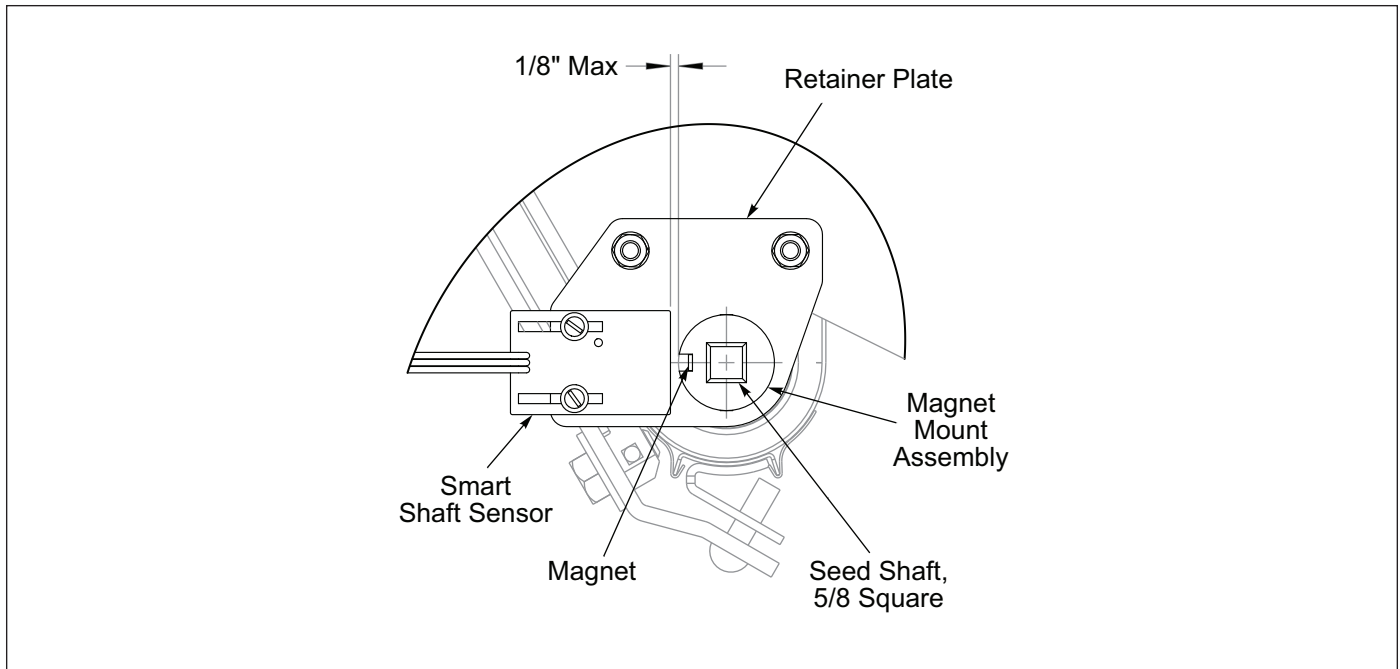

Figure 2-9: Brillion Elite Mini Monitor - Rear Brome Seed Box Seed Shaft Sensor
5. If equipped with Rear Brome Seed Box, verify that the pre-assembled Smart Shaft Sensor is positioned 1/8" Max away from the Magnet Mount Assembly and connect the Smart Shaft Sensor to each Seeder Harness. **See Figure 2-9.** If not equipped with a Rear Brome Seed Box, seal the Seeder Harness